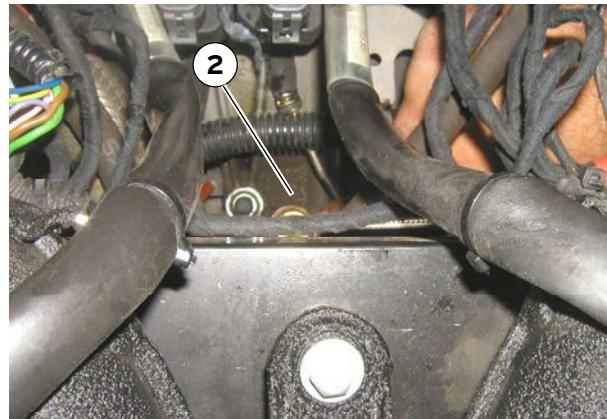

Fig. 2 Gearbox and rear differential oil filling plug
- Lower the vehicle and unscrew the gearbox and rear differential oil filling plug (2, Fig 2).
- Clean the plug (2, Fig 2) and screw it back on.